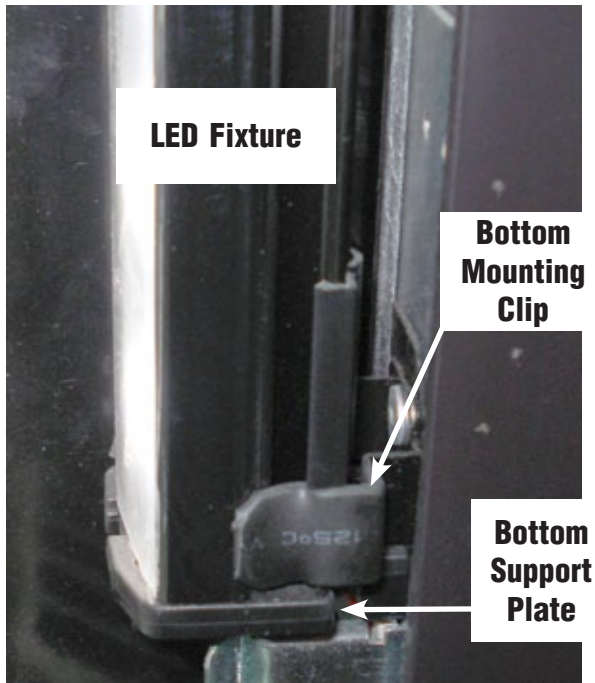

Figure 4. Bottom Support Plate and Clip
8. Reassemble in the reverse order of disassembly. Make sure that LED light fixture is on bottom support plate, as shown in Figure 4.